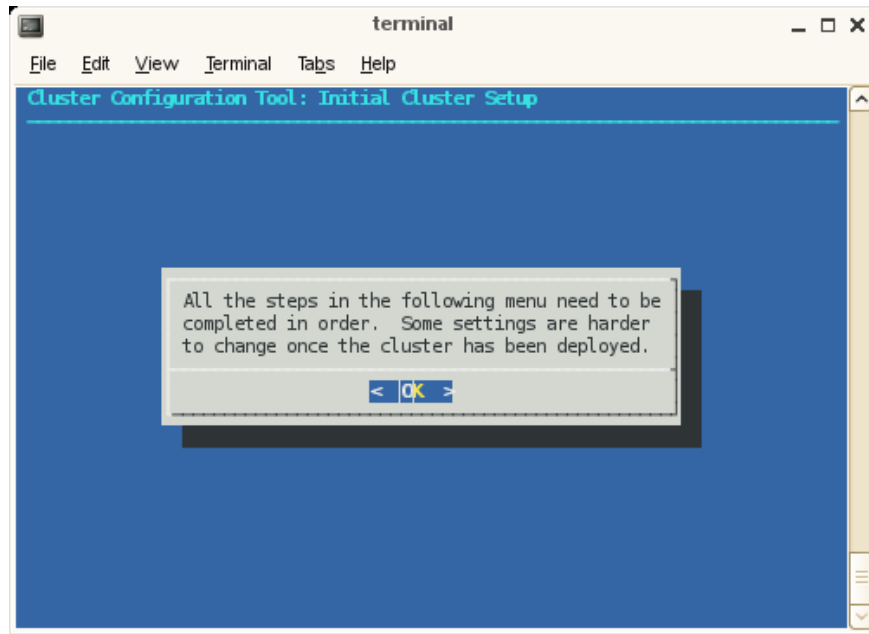

Figure 2-17 Cluster Configuration Tool: Initial Cluster Setup Screen
3. The **Cluster Configuration Tool: Initial Cluster Setup** screen appears, as shown in Figure 2-17 on page 60. Read the notice and then click **OK** to continue.